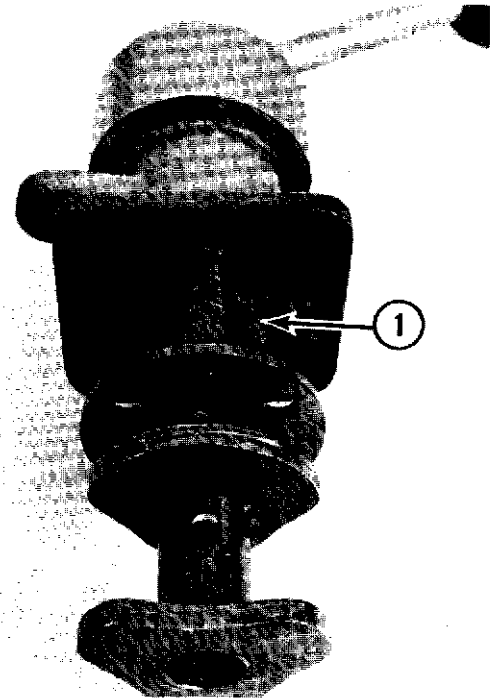

Fig. 11-30
- Q. Place the gear shift handle to the 3rd speed position. Locate the bracket with the oil hole (1, Fig. 11-30) in the up position.